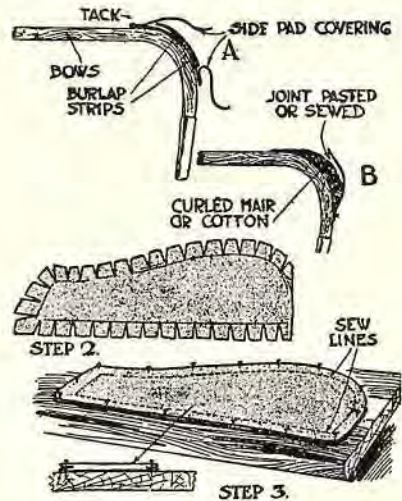

Fig. 7. In the upper half of the illustration is shown the method of building up the side pads.
2. Using each part as a pattern, one by one, mark out the new parts on the top material. Care must be taken to allow extra material at the edges for fastening the material to the frame. The method of constructing the rear quarter is shown in Fig. 7 (lower half), and this method applies in general to each of the top parts.
sewed together. These operations are shown in detail in Fig. 7 (upper part).